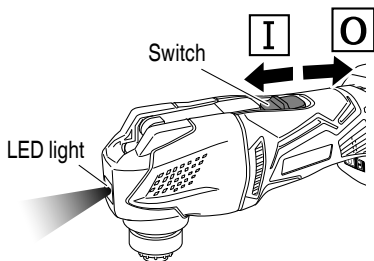

Fig. 7
6. Sliding the switch towards **I** will switch on, simultaneously activating the LED light which will light the application tool. (Fig. 7)